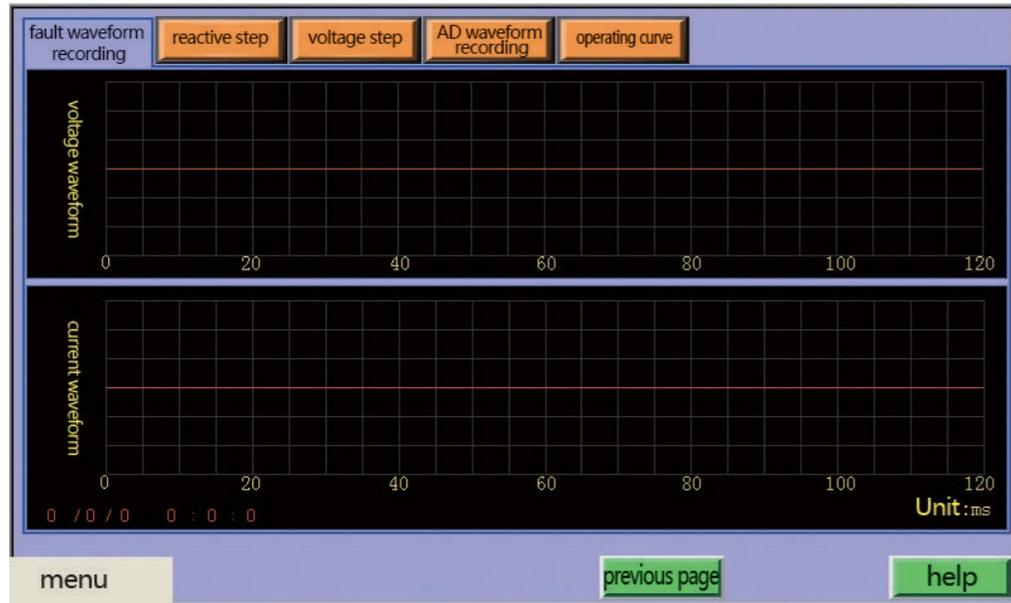

Figure 4.7 Fault Waveform Recording Page
3) Fault waveform recording: Figure 4.7 shows the page on which transient voltage and current waveforms in the event of fault are recorded.